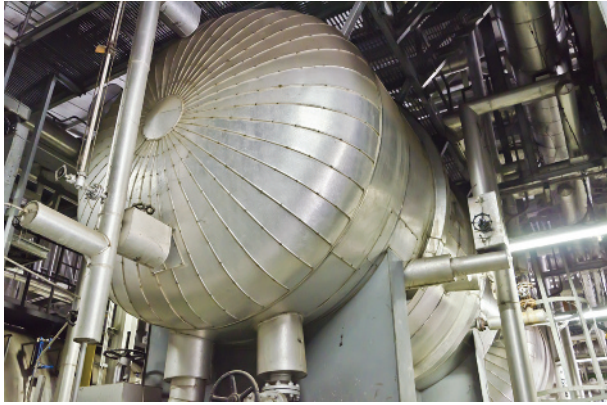

Figure 1.5 Steam drum.
- Boiler—A process subsystem that uses a fired fuel or waste heat to turn condensate into high-pressure steam. Steam is typically collected in a steam drum (see Figure 1.5)